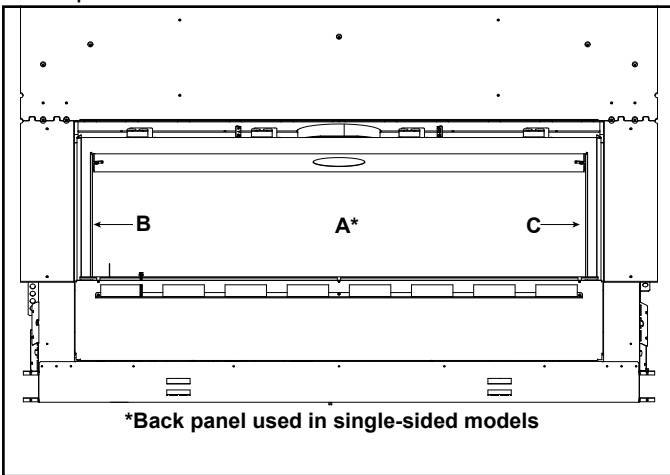

Figure 11.4 Placement of Glass Panels
1. Set back glass panel, labeled A in Figure 11.4, into firebox with the smooth side of the glass facing outward. Insert retaining bracket through the slot in the inner firebox heat shield. Line up the existing hole in the heat shield with the hole closest to the bend in the bracket and secure in place with a screw.
4. Install the left side panel, labeled "B" in Figure 11.4, by sliding it into place from the front. While installing, press the panel firmly against the firebox side.
1. Set left side glass panel, labeled B in Figure 11.4, into firebox with the smooth side facing outward.